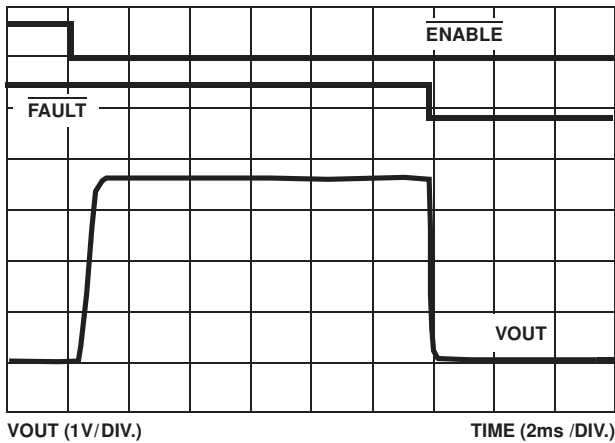

FIGURE 10. ISL6436L TURN-ON INTO 1.5A OCS
During initial turn-on the ISL6436 prevents nuisance faults being reported to the system controller by blanking the fault signal for 12ms. This blanking eliminates the need for external RC filters necessary for other vendor products that assert a fault signal upon initial turn-on into a temporary high current condition. See Figures 10 through 12 for waveform examples.
An overcurrent (OC) condition can be invoked on both the ISL6436 and the PPTC by driving TP11 to +6V, causing SW1 to close and a nominal 1.5A load is imposed. This represents a current over load to the ISL6436 and is thus quickly current regulated to the 1A limit. If the OC duration extends beyond the nominal 12ms of the internal ISL6436L timer then the output is latched off and the fault output is asserted by being pulled low turning on the appropriate FAULT LED, see Figure 10. (Please note: the labeling for FAULT-1 and FAULT-2 is reversed). The eval board is designed to only invoke an OC condition on channel 2 (TP4) so that a channel to channel